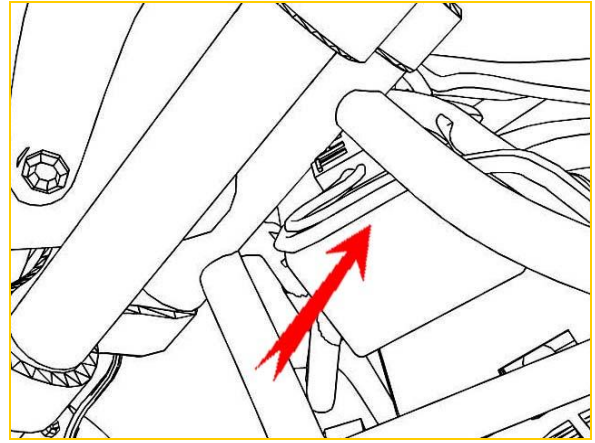

Fig 14
18. Pull any excess slack in the Zodiac Tfi harness back to the front. (fig 14)